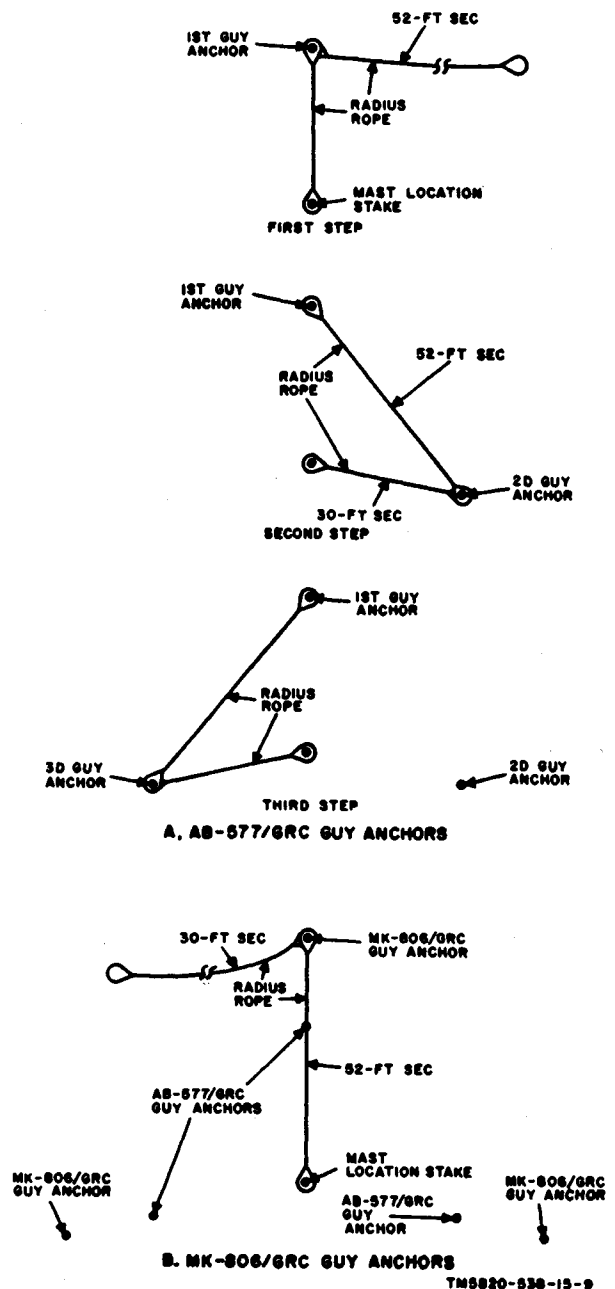

Figure 2-6. Layout of guy anchor positions.
b. Procedure for Location of Guy Anchors (fig. 2-6). Mark the location for the AB-577/GRC guy anchors, using the procedures given in (1) below. When the MK-806/GRC
Notes. The radius rope has a loop at each end and a loop where the 30-foot and 52-foot sections join (A, fig. 2-6).
the mast location stake, and mark the position of the first guy anchor 30 feet away (first step, A, fig. 2-6).
anchor. Take the remaining loop in the radius rope. Stretch both sections of the rope, and mark the second guy anchor position (second step, A, fig. 2-6).
- (d) Leaving the ends of the radius rope looped over the same two stakes, stretch it in the other direction and mark the third guy anchor position (third step, A, fig. 2-6).
- (2) When the MK-806/GRC is to be added to the AB-577/GRC, refer to B, figure 2-6 and proceed as follows, after the guy anchor locations for the AB-577/GRC ((1) above) have been completed. Loop the end of the 52-foot section of the radius rope over the mast location stake. Mark the position of the three guy anchors for the MK-806/GRC in line with the AB-577/GRC guy anchor locations, 52 feet from the mast location stake.
- (2) Remove the mast location stake (A, fig. 2-6). Position the launcher so that it is lying on the ground, with the center of its base at the stake location, and with the top of the launcher facing midway between the second and third guy anchors.
- (3) Remove one mast section from the mast section carrier; set it aside.
(1) *Launcher.* Attach the three launcher guys (coded blue) to the launcher (fig. 2-15). Adjust the length of the two guy assemblies for the *second* and *third* guy anchors (A, third step, fig. 2-6) close to the actual length (36 feet) required after the launcher is erected. Connect the snubber end of these guy assemblies to the second and third guy anchors.